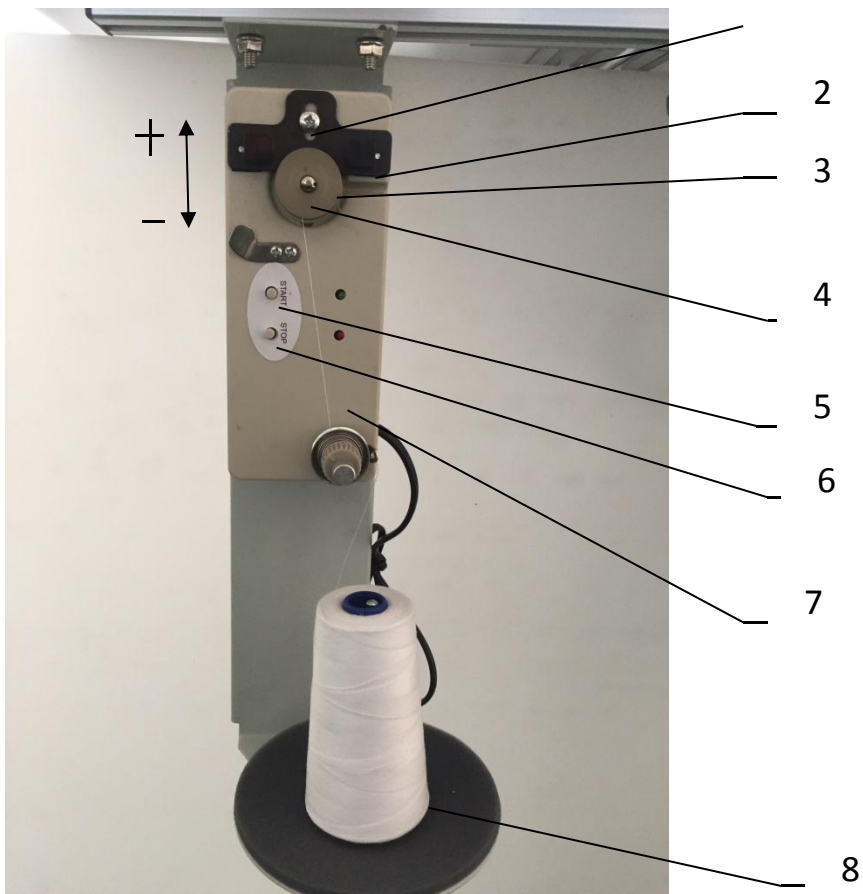

Fig 7
- Wire ball 8 is placed on the wire axis as shown in figure 7.
### 2.3 Adjustment of bobbin winding volume (figure 7)
When the wire is wound or shaped as shown in fig.8.1 loosen the screw 7 in fig.7 and move the part 4 up and down in fig.7 to make the wound core wire as shown in fig.8.1.